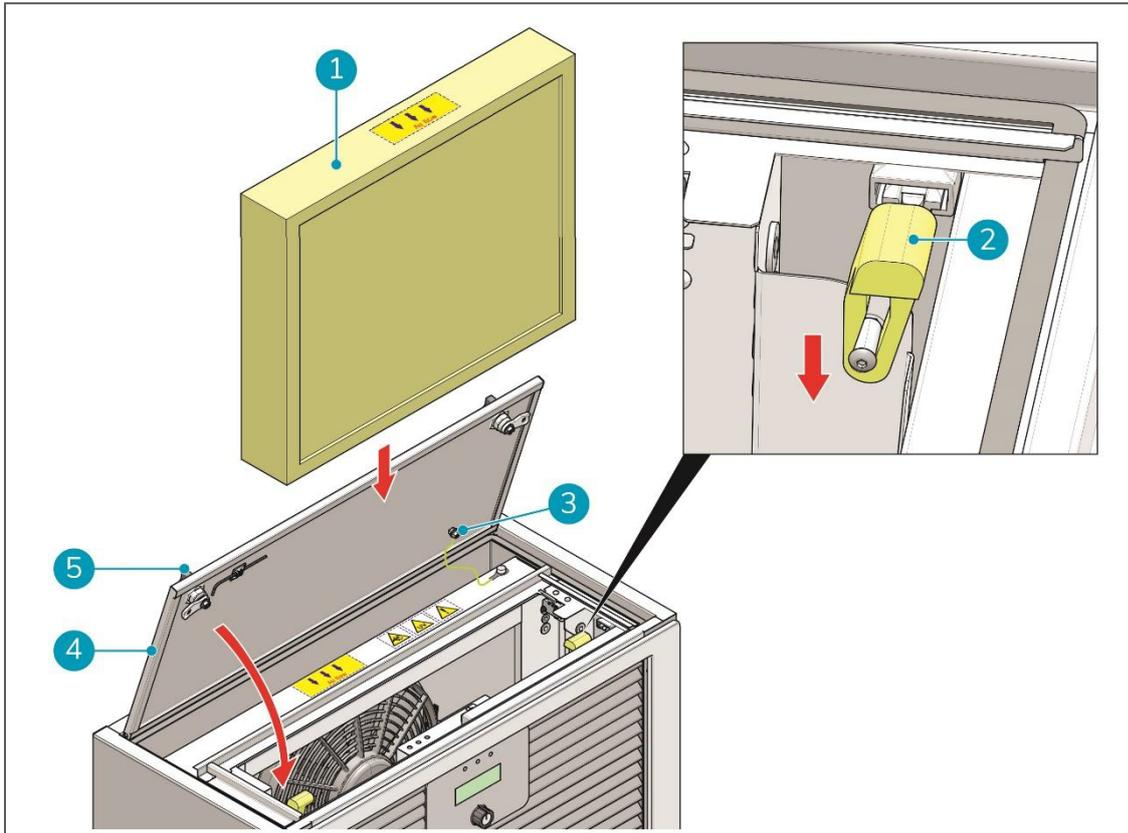

Figure 18
7. Carefully place the new filter into the compartment (Figure 18, pos. 1).
8. Push down the two yellow locking levers (Figure 18, pos. 2) to lock the filter.
9. Close the compartment panel (Figure 18, pos.4).
10. Turn the two knobs on the compartment panel (Figure 18, pos. 5) clockwise until the panel is locked.